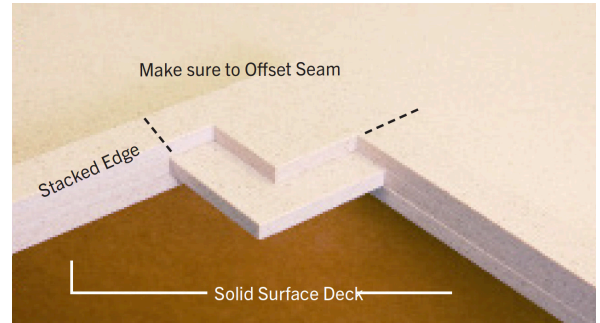
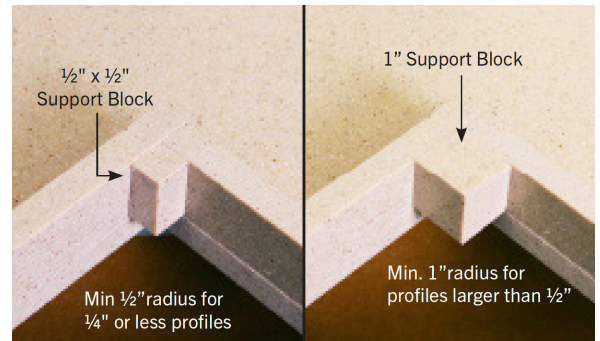

Figure 26A
Figure 26B
- Interlocking Corner Block Method: minimum 3" (76.2mm) x 3" (76.2mm) blocks or greater (FIG. 26A)
- Interlocking Vertical Strips Method: Corner blocks (FIG. 26B)
- Inside corner on a 45° seam requires seam support interlocking block method (Fig 26B) or corner block method (Fig. 26A). Drop edge seams must be staggered and interlocking.